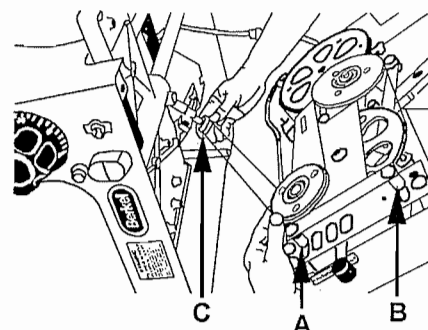

Figure 5
6. Tip the lower half of the slicer, the Power Base, toward you at about a 30° angle and let it rest against your chest, Figure 5.
7. Remove one of the 5/16" X 2" bolt, Figure 5, A. After slipping the old belt out and putting the new belt in, replace and tighten the bolt.
8. Now repeat this process with other bolt, Figure 5, B. This procedure will allow you to get the new belt in place without changing the orientation of the Pulley and Bracket Assembly.
11. Now stretch the belt and place it around the motor pulley, Figures 5 and 6, C.